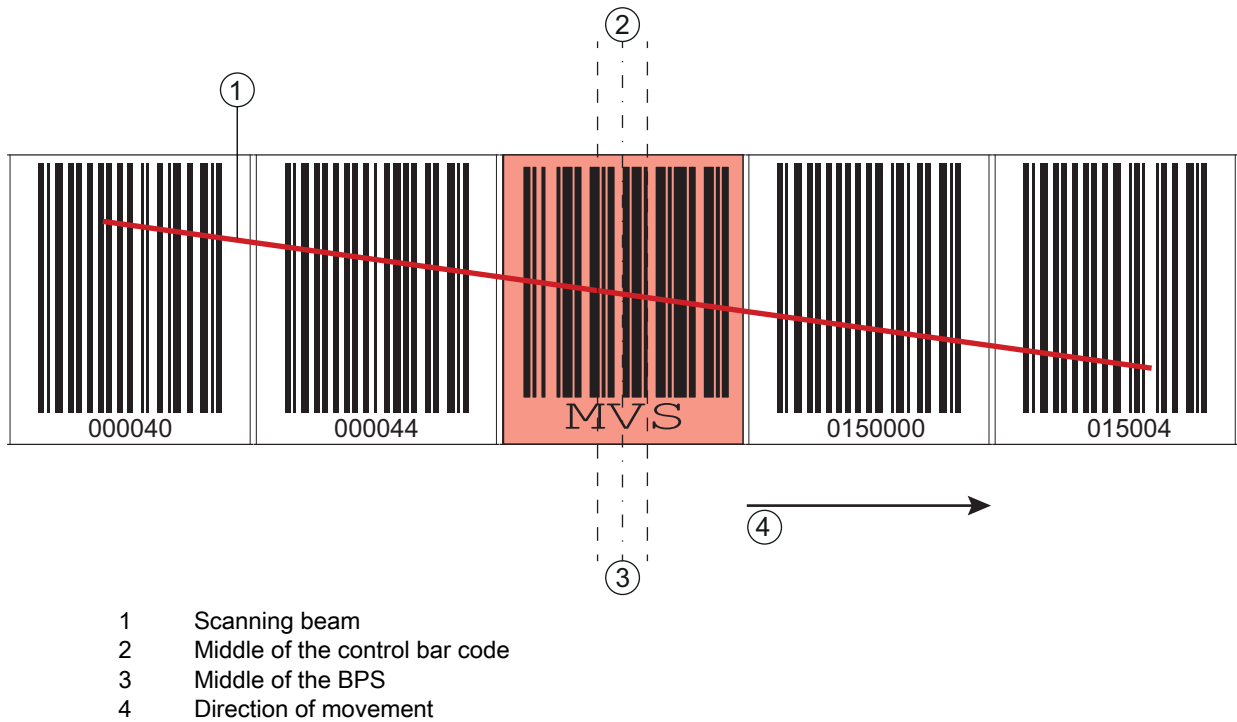

Figure 3.16: Changeover position with *MVS* control bar code for BCB changeover
- If the center of the BPS reaches the transition point of the control bar code, the device switches to the second BCB, provided the next position label is in the BPS's scanning beam (see figure 3.16). The output position value is thereby always uniquely assigned to one BCB.